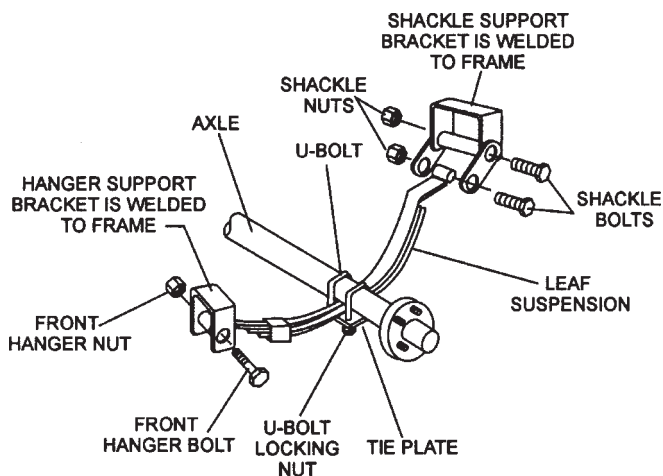

Figure 58. Major Suspension Components
12. **Lug Nuts** - Used to secure the wheel to the wheel hub. Always use a torque wrench to tighten down the lug nuts. See Table 18 and Figure 58 for lug nut tightening and sequence.
The **leaf suspension** springs and associated components (Figure 58) should be visually inspected every 6,000 miles for signs of excessive wear, elongation of bolt holes, and loosening of fasteners. Replace all damaged parts (suspension) immediately. Torqued suspension components as detailed in Table 17.